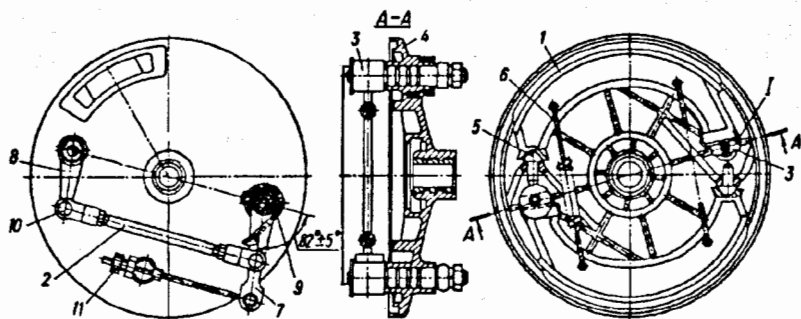

Fig. 28. Front-wheel brake:
Front-wheel brake. Brake shoes 1 (Fig. 28) rest with their spherical seats on the heads of tappets 5, and with their pressure pads, on cams 3 installed in disk 4. Attached to the cams by means of slots are driving (7) and driven (8) levers arranged on the face side of the brake disk.
mount the driving and driven levers and secure them to the cam slots, maintaining angles of $82^{\circ} \pm 5^{\circ}$ as shown in Fig. 28. Error in parallelism of the levers must not be greater than 5° .